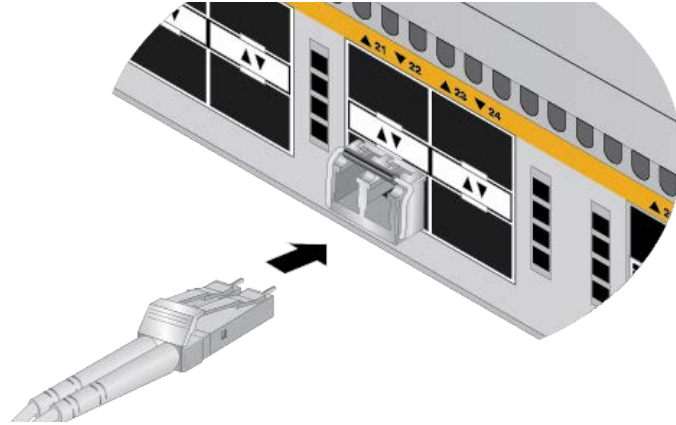

Figure 38. Connecting a Fiber Optic Cable to an SFP28 or SFP+ Transceiver
6. Connect the fiber optic cable to the transceiver, as shown in Figure 38.